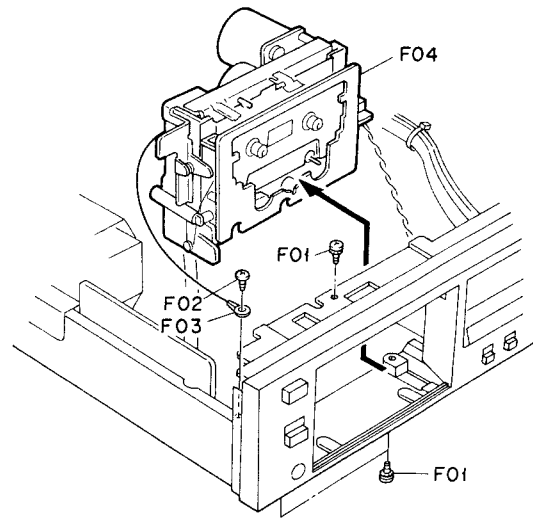

Fig. 2.3
2.3. Mechanism Ass'y Refer to Fig. 2.3.